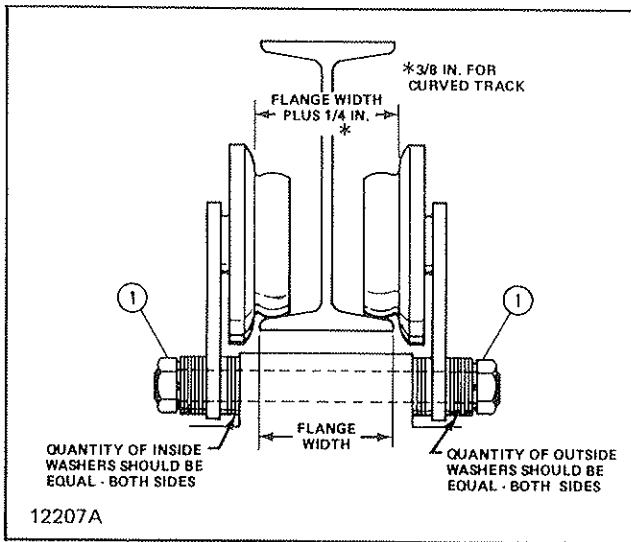

Figure 2-1. Sectional View of Trolley showing proper wheel and washer spacing.
- b. Trolley Mounted hoists are attached to moveable trolleys. If hoist is mounted on an existing trolley, a qualified person shall determine that the trolley and its supporting structure are adequate to support the rated load and weight of the hoist. Hoist/trolley units may be shipped from the factory with trolley packaged separately. If the trolley can be installed directly over the end of the supporting beam, assemble trolley to hoist. Be certain that the spacing between wheel flanges, after assembly, is 1/4" greater than exact width of beam flange. (See Figure 2-1 below and instruction sheet furnished with trolley.) Using proper equipment, carefully lift trolley and hoist and install on end of beam.
For trolleys which are to be mounted along the span of a beam not having open ends, measure exact width of beam flange and assemble trolley to hoist so that spacing between wheel flanges is 1/4" (see Figure 2-1) greater than beam width (3/8" if beam has curves). This is accomplished by rearranging the spacer washers on the bolts connecting trolley side plates to hoist mounting lug. If
When proper spacing has been determined, loosen mounting nuts (Item 1, Figure 2-1) to allow trolley wheels to spread far enough to pass over edges of beam flange. (Some installations may require complete removal of one trolley side plate.) Using adequate equipment carefully lift the hoist and trolley so the wheel treads will rest on the lower beam flange. Replace side plate and washers if removed for installation. Replace suspension stud nuts.